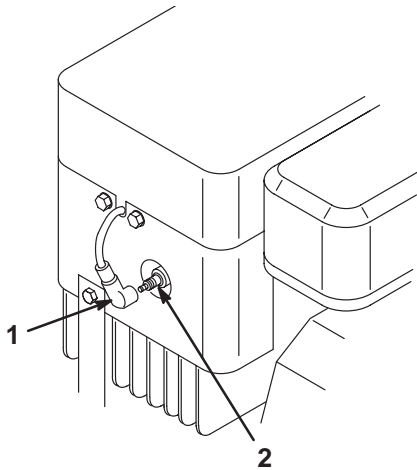

Figure 25
7. Disconnect the wire from the spark plug (Fig. 25).
3. Connect the wire to the spark plug (Fig. 25).